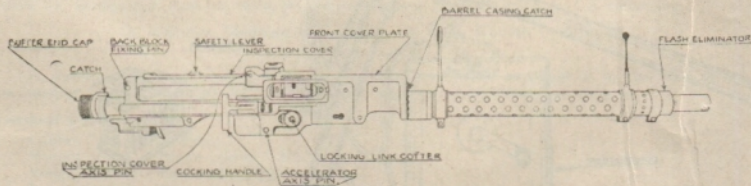

FIG. 11.—7.7 MM. AIRCRAFT M.G.—BREDASAFAT.
19. 7.7 mm. Aircraft M.G.—Breda-Safat. (Fig. 11)